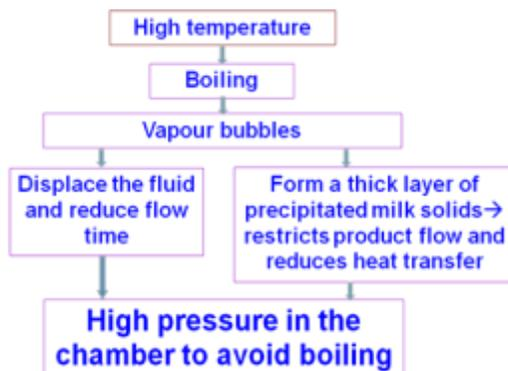

Fig. 6.11 Why high pressure is required in chambers
In the heating chambers, a high pressure is maintained on the milk side. Fig. 6.11 gives a cause-effect diagram to explain why high pressure is required in the chambers.
- As can be seen from Fig. 6.11, high temperature maintained in the chambers cause boiling of milk and it forms vapour bubbles. The vapour bubbles have two effects, i.e., they displace the fluid and reduce the flow time; and they also form a thick layer precipitation of milk solids which restricts product flow and reduces heat transfer. Therefore, high pressure is required in the chamber to avoid boiling.